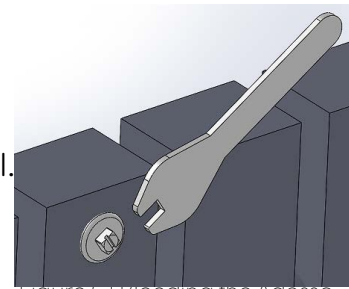

Figure 6 | Bleeding the Adesso to release pressure
4. Use the provided spanner to loosen the bleeding valve at the back of the radiator. (**Figure 6**)